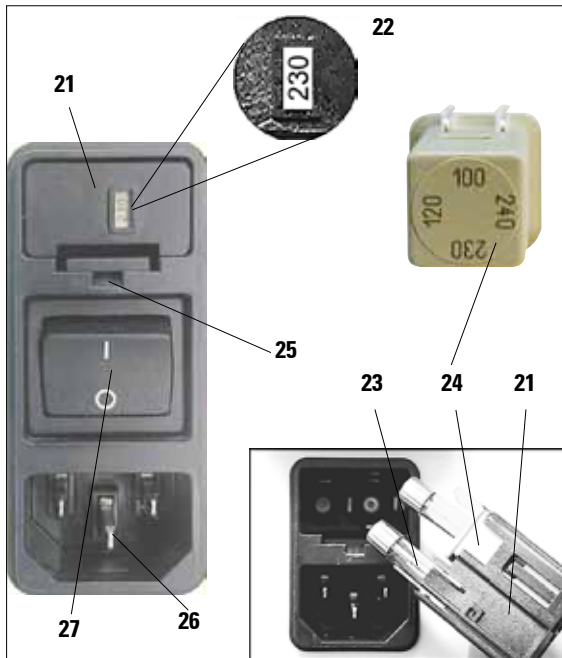

Fig. 12
The voltage selector is located above the main power switch, on the left-rear side of the instrument (Fig. 12). The voltage setting is displayed in the viewing window (22).
- Insert a small screwdriver into the cutout (25) and carefully pry out the insert.
- Remove the voltage selector housing (21) together with the fuses (23).